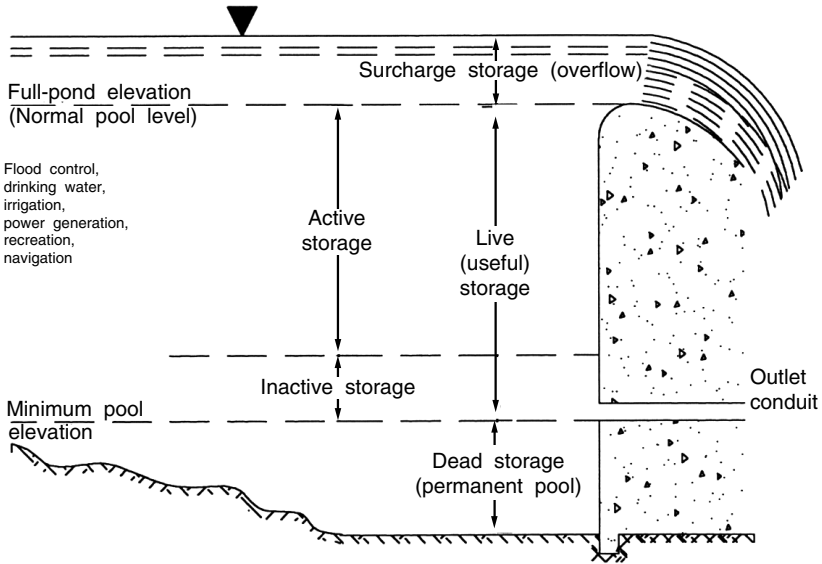

FIGURE R-2 Reservoir storage.
**Reservoir storage** The total volume of water in a reservoir at any time. See Figure R-2. Its various elements may include: active storage (also called **working volume**), inactive storage, live storage (also called **useful storage**), surcharge storage or overflow, dead storage (or permanent pool), total storage.